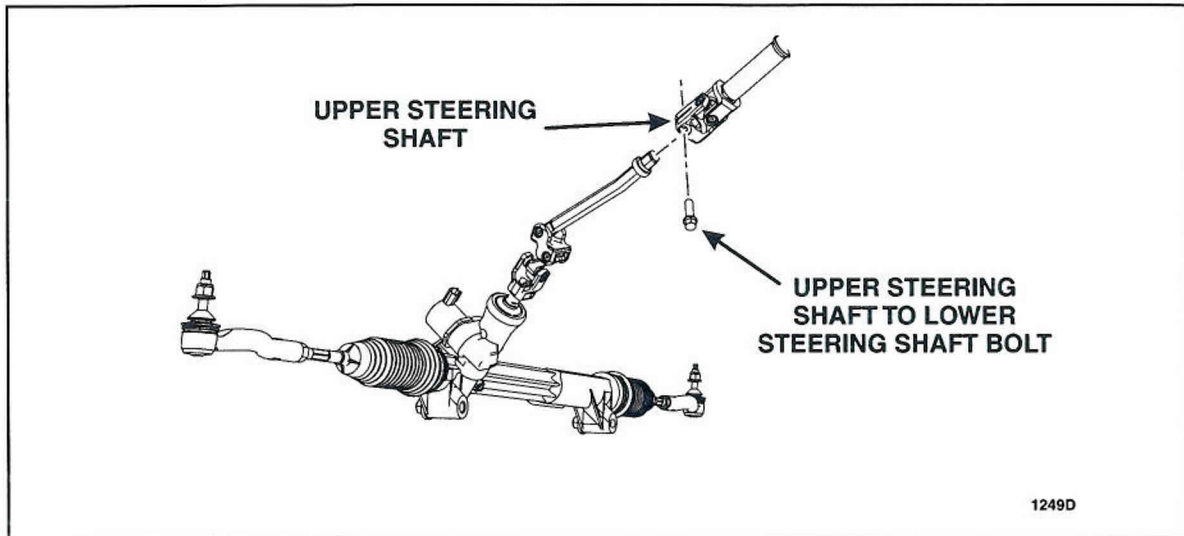

FIGURE 3
4. If not done previously, remove and discard the upper steering shaft to lower steering shaft bolt and remove the upper steering shaft. See Figure 3.
10. Install the upper steering shaft and install a *new* upper steering shaft to lower steering shaft bolt. See Figure 3.